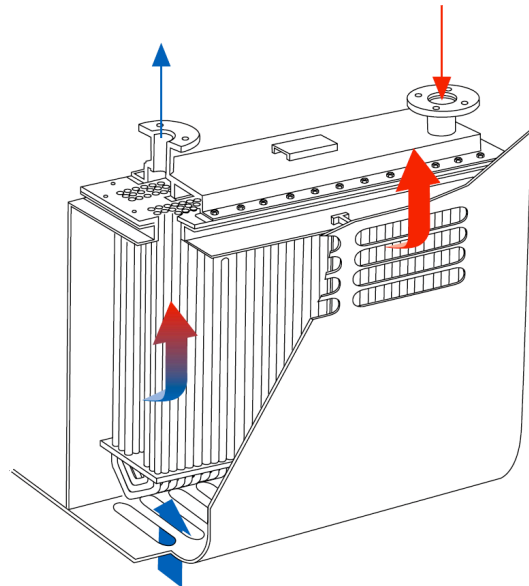

Figure 3b. Longitudinal mounting.
2. **Longitudinally (parallel with fore and aft centerline):** this method is less popular as the frames have to be cut open to allow the special sea chest to be installed (see fig. 3b).